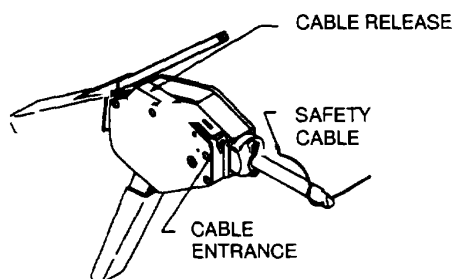
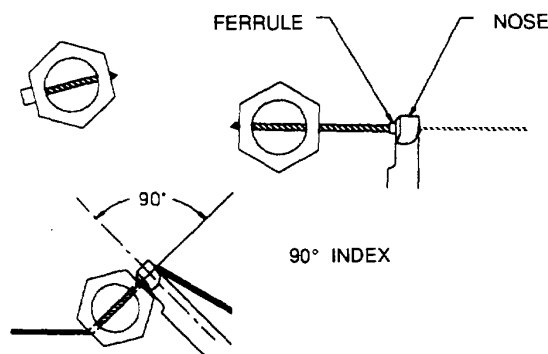

Figure 2-96. Pre-Set Tension Safety cable Tool
Figure 2-97. Position of Safety Cable Too,
(1) Insert the free end of the cable through the tool nose (see figure 2-96) and slide the tool along the cable to the fastener being secured. See figure 2-97.
perpendicular to the cable as possible while completing a full stroke. This assures consistent tensioning of the cable. See figure 2-97.